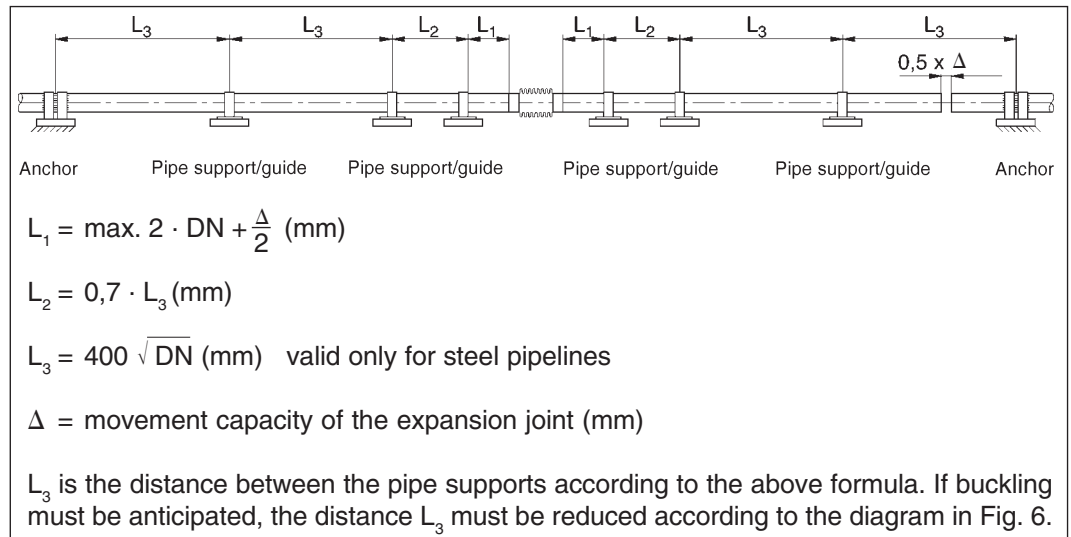

Fig. 4
- Align pipeline and install the pipe guides acc. to Figs. 4, 5, and 6.